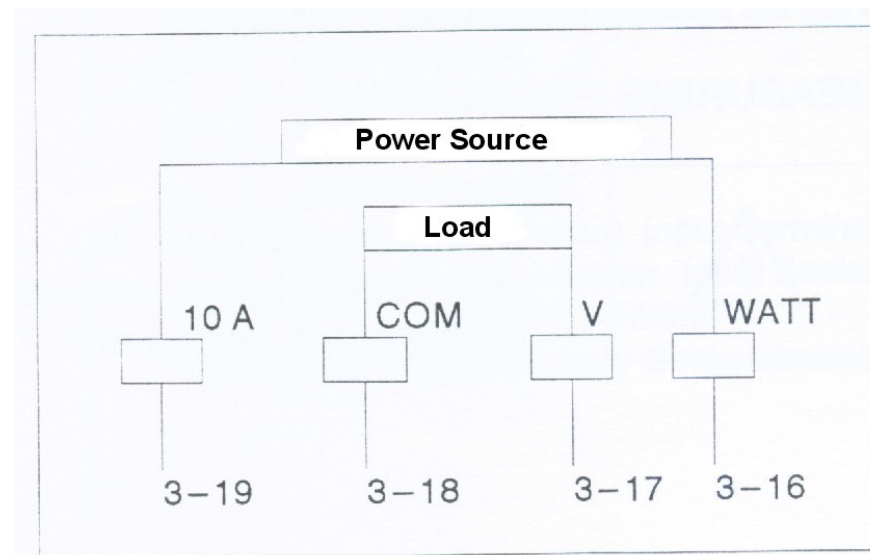

Fig. 2
6. * Connect the "LOAD" to the terminals of 3-17, 3-18, (Fig. 2)
* Connect the "Power Source" to the terminals of 3-16, 3-19 (Fig. 2)